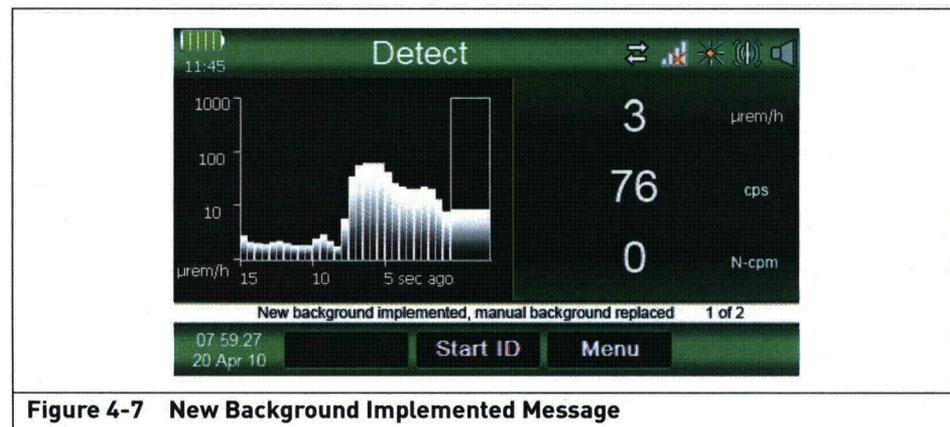

Figure 4-7 New Background Implemented Message
While Active Background is Enabled, then any time the current background appears to be significantly different from the manually collected background, the system will inform the user that it is implementing a new background and that the manually collected background is no longer in use (see Figure 4-7). Refer to "Active Background" on page 4-5.
- Figure 4-7 indicates New Background has been implemented.